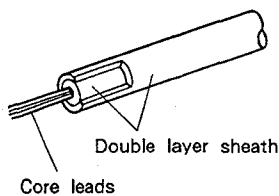

Fig. 10-2 Anode cable structure
- The anode cable structure is outlined in Fig. 10-2. Note that the sheath consists of two layers.